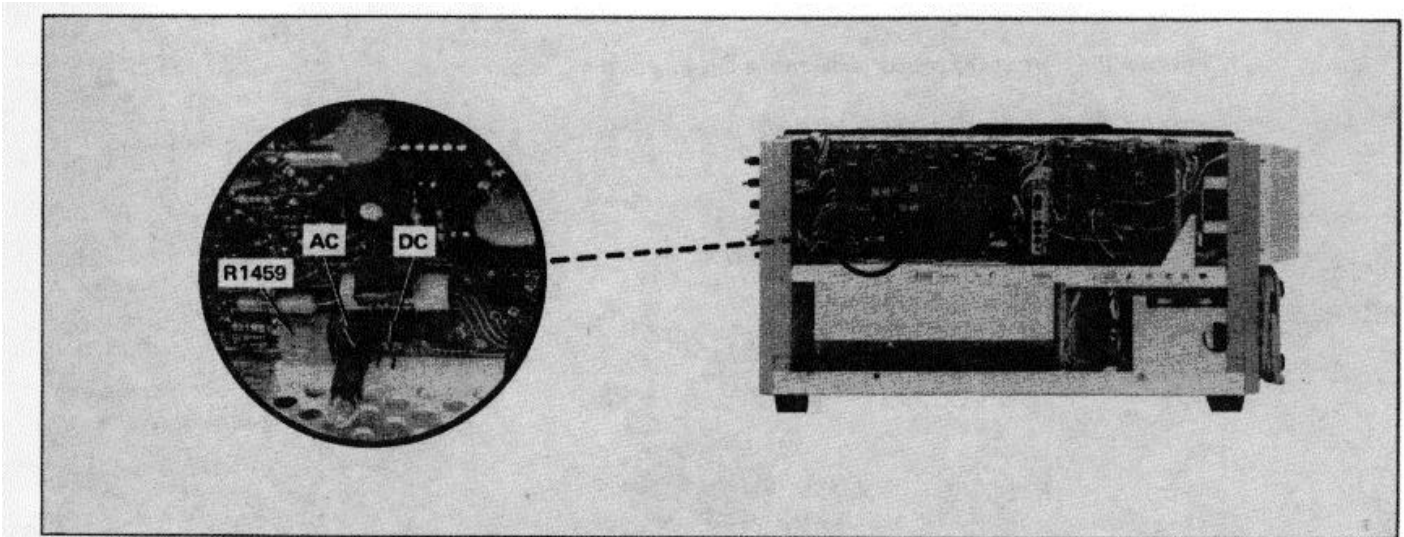

Figure 5-6. Location of Calibrator AC/DC jumper
- a. Change jumper P1440 (see Figure 5-6) to the DC position
- a. Change jumper P1440 to the AC position (see Figure 5-6)